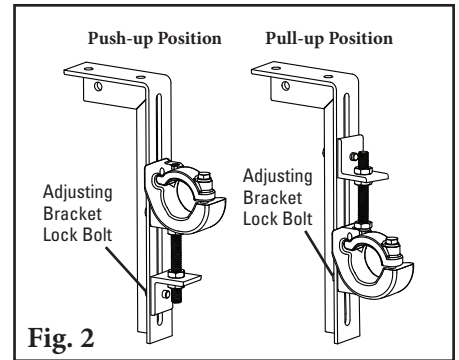

Fig. 2
- 2. Choose the tensioner position.** The tensioner is shipped mounted in the push-up position. Depending upon the space constraints of the installation, the tensioner can be optionally mounted in a pull-up position. To do this, loosen the threaded rod lock nut, unscrew the threaded rod and remove adjusting bracket lock bolt. Then move the adjusting bracket and threaded rod to the top of the clamp blocks (Fig. 2) and tighten threaded rod lock nut.
- 2. Install the pole.** Remove the clamp block bolt from the access side clamp block and remove the upper half of the clamp block. On the opposite side clamp block, loosen the clamp block bolt enough to allow the pole to slide freely through (Fig. 2). Slide the pole across the belt, through the loosened clamp block, and locate into the cradle clamp block. Position the upper clamp block half over the pole and reinstall the clamp block bolt. Do not fully tighten.